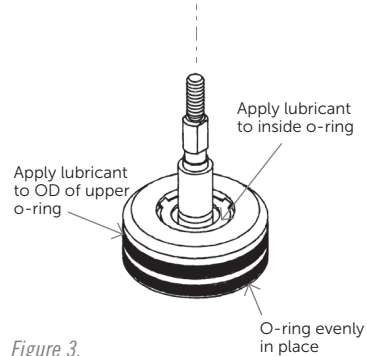

Figure 3.
2. Begin assembly by applying lubricant (S1) on the diaphragm/retainer assembly (P6) o-rings. (See Figure 3.)
3. Make sure the o-ring between the diaphragm and retainer is evenly in place (see Figure 3) and then install the diaphragm/retainer assembly (P6) in the valve body (P14) and push the retainer all the way down.